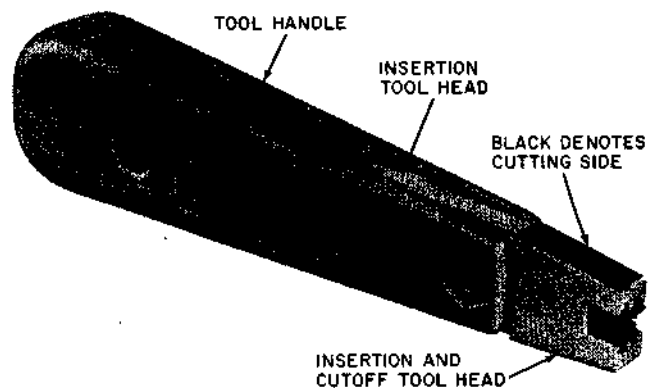

Fig. 8—788D3 Inserter-Cutter Tool
2.08 788D3: The 788D3 inserter-cutter tool (Fig. 8) consists of a 788A1 tool handle and an insertion head. The 788D3 is a single-pair insertion tool with reversible ends on the head. One end provides insertion cutoff capable of seating and cutting off a pair of 24-gauge F cross-connect wires on the top (jumper) side of an 88-type connecting block. The other end is for insertion only.